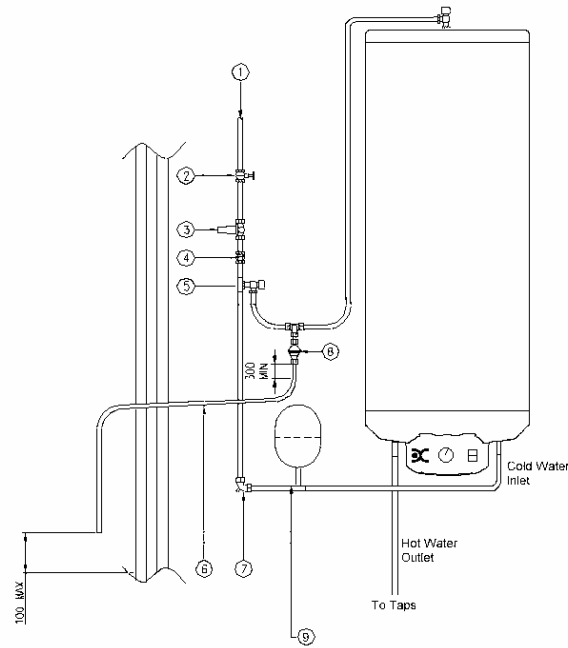

Fig 1
**3.7. Pipework connections** – All Pipework connections to the cylinder **MUST** be made in accordance with Fig1.
**4.1. Connections.** Connections **MUST** be made to the cylinder in accordance with Fig 1, and Fig 2. A drain cock (not supplied) should be fitted in the position shown in Fig 1 to facilitate draining of the cylinder.
**4.5 Expansion Relief Valve** this must be installed between the pressure reducing valve and the water heating unit in accordance with Figure 1. No other valve should be fitted between this valve and the cylinder. The expansion relief valve contains a non return valve.
**IMPORTANT:** Regular checks must be carried out to ensure that the expansion vessel is correctly pressurised to 3 bar at all times. The expansion vessel should be installed using a standard t-connector between the expansion relief valve and the cylinder – see Figure 1.
**4.7. Tundish** – The tundish must not be positioned above or in close proximity of any electrical current carrying devices or wiring. The installation should conform with the requirements of item 7 below.
9.4. Drain the cylinder – When draining the cylinder, always switch off the boiler and the immersion heater first. Turn off the water supply at the stopcock (see Fig 1). Connect a hosepipe to the drain cock (see Fig 1) and route it to a convenient gully. Open the drain cock and all hot taps that are served by the cylinder. The cylinder may take several minutes to empty completely.